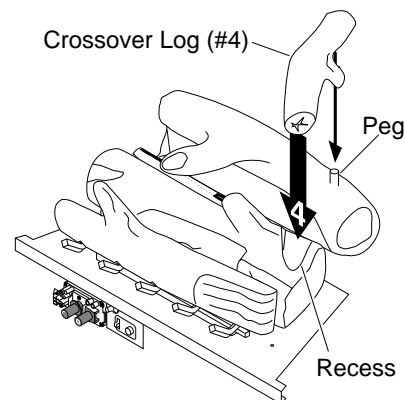

Figure 24 - Installing Crossover Log (#4)
4. Place crossover log (#4) onto the peg (right) on back log (#2) and into the recess of the middle log (#1) (see Figure 24).